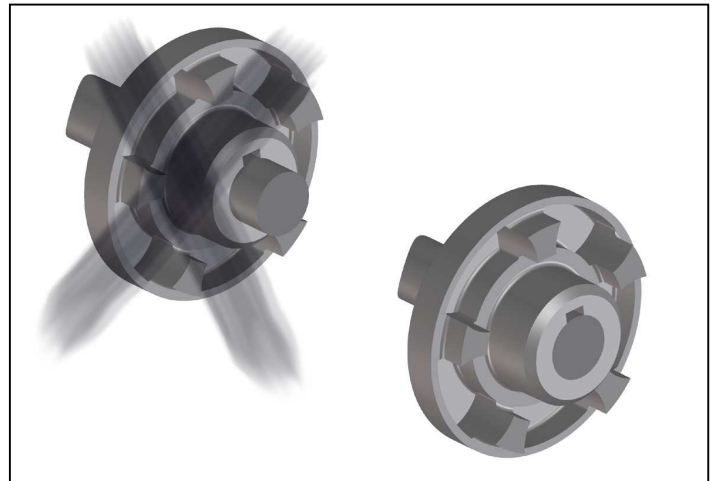

Fig. 4
- Mount the hub so that the shaft end is even with the interior borehole opening (Figure 4). Pay attention to possible differing agreements!